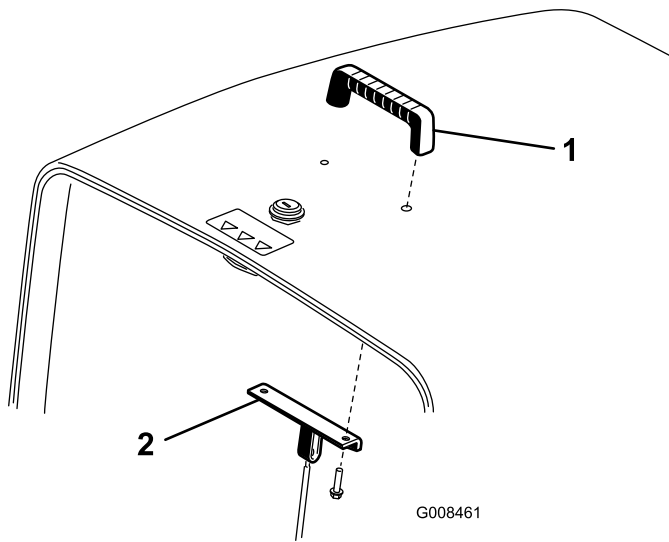

Figure 5
2. Mount the handle and the cable bracket to the hood with (2) screws (Figure 5).